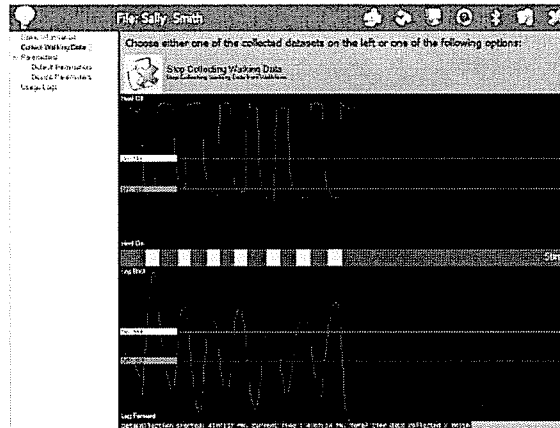

Figure 20 – Stop Collect Walking Data screen.
8. When a sufficient number of steps have been recorded, click on the '**Stop Collecting Walking Data**' button (Figure 20). (Typically, the client might stand up, walk for 10-20 meters and sit down again during a period of recording.)